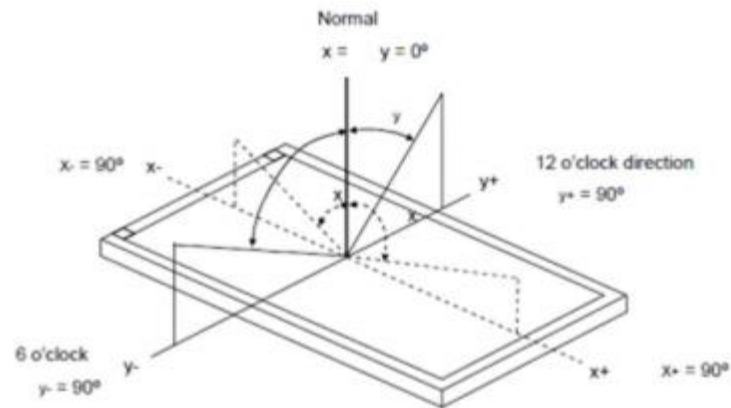

Figure 6. Definition of Viewing angle
(3) Definition of Viewing angle:
As Note (1) the static contrast ratio definition, the viewing angles are defined at the angle that the contrast ratio is larger than 10 at four directions relative to the perpendicular direction of the pospur's module (two vertical angles: up θ_{y+} and down θ_{y-} ; and two horizontal angles: right θ_{x+} and left θ_{x-}). The standard setup of measurement is shown in Figure 6